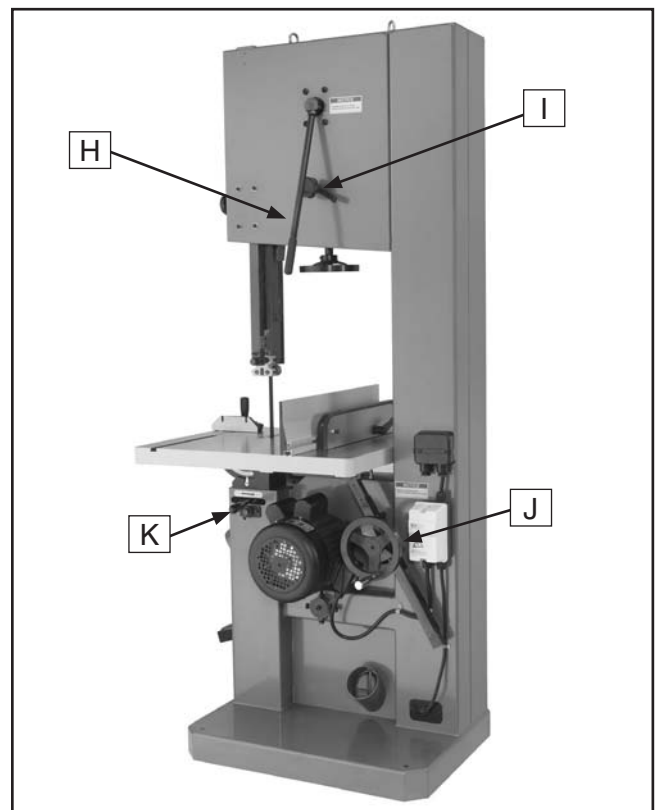

Figure 45. Rear controls.
Rear Controls (Figure 45)
4. Using the tracking controls (**Page 32, Figure 45**), adjust the blade so it tracks on the center of the wheel.